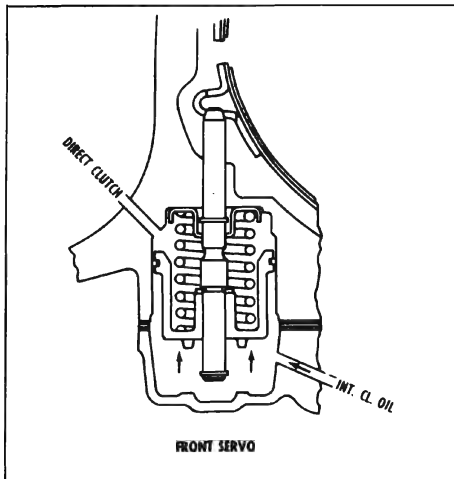

Figure 5-221
- a. Intermediate clutch oil applies the front servo to apply the front band in second gear. See Figure 5-221.